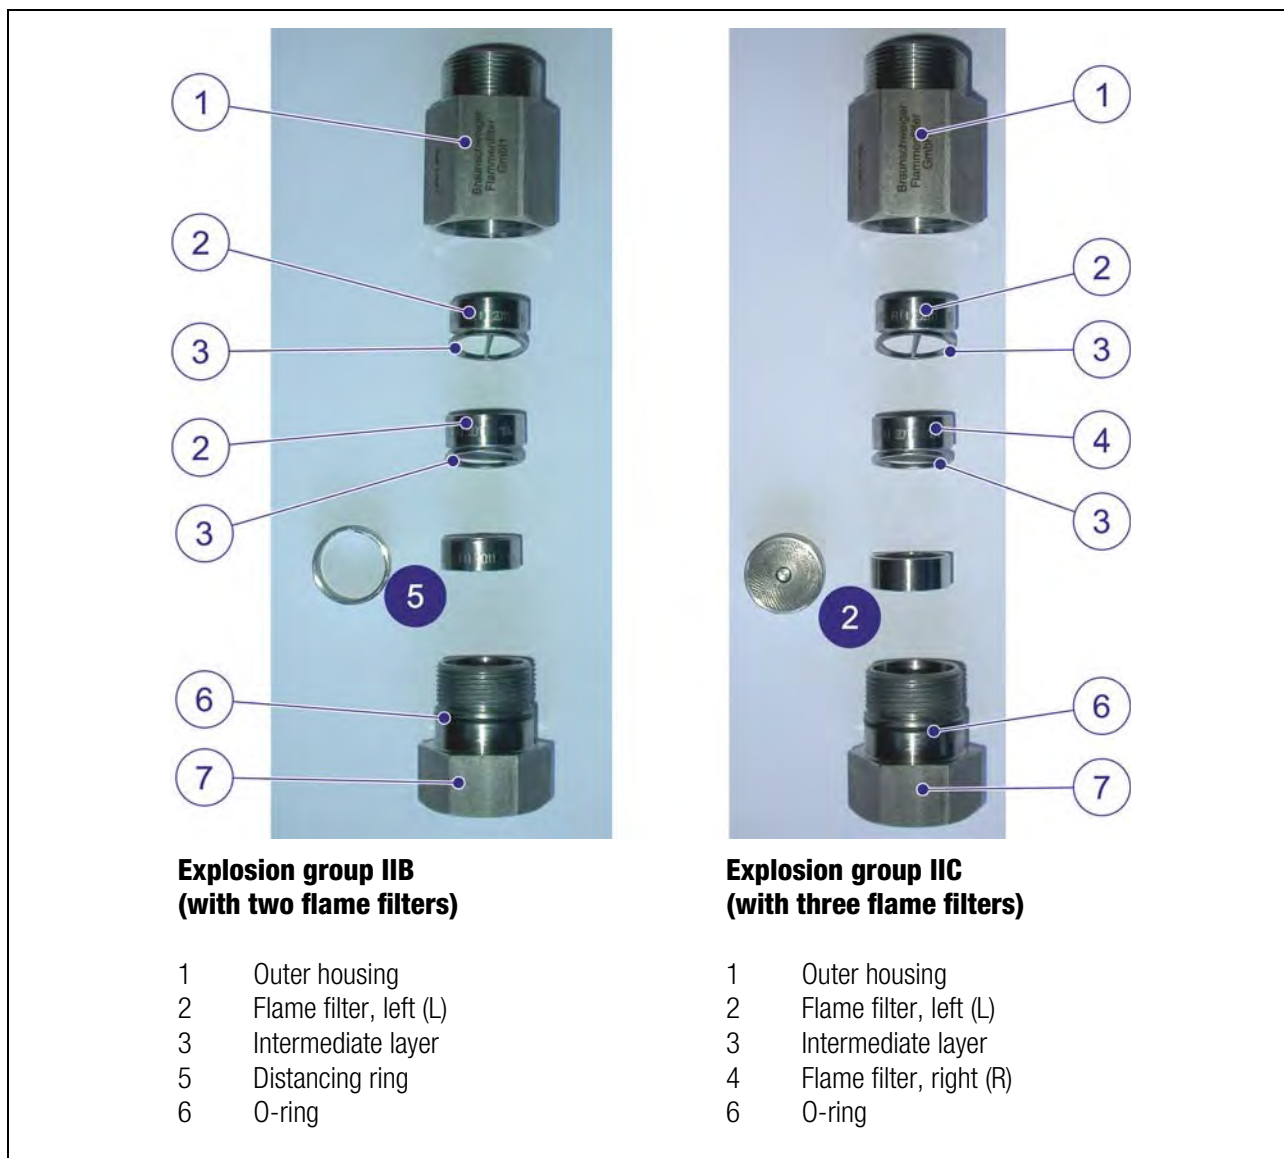

Figure 10.42: Configuration of flame arrester with flame filter
- ☞ Insert the flame filters and intermediate layers in the inside housing (7) (for the sequence, see *Figure 10.42 on page 149*). Please note that flame filter (R) is installed as the second flame filter.
- ☞ Ensure the o-ring (6) is undamaged.
- ☞ Screw the inside housing (7) back into the outer housing (1) on the Ex d housing. Tighten the inside housing with 50 - 60°Nm.